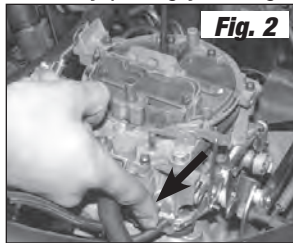

Fig. 2
1. **Determine if the distributor vacuum port is timed (no vacuum at idle) or full (vacuum present at idle).** With the engine at operating temperature and idling, pull the vacuum advance hose off of the carburetor and “feel” for vacuum by putting your finger on the vacuum port (**See Fig. 2**). If your distributor has timed vacuum advance, you will hook the vacuum hose from the distributor to the passenger side vacuum port on the new carburetor. If it has full vacuum advance, it will be hooked up to the driver side port.